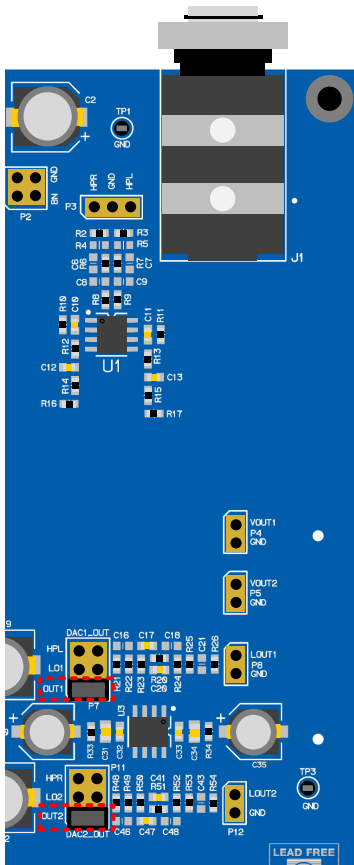

Figure 13: DAC Output to OUT1/OUT2
- OUT1/OUT2 (Default) – 1  $V_{RMS}$  output on Dunglass OUT1 and OUT2, shown in Figure 13.